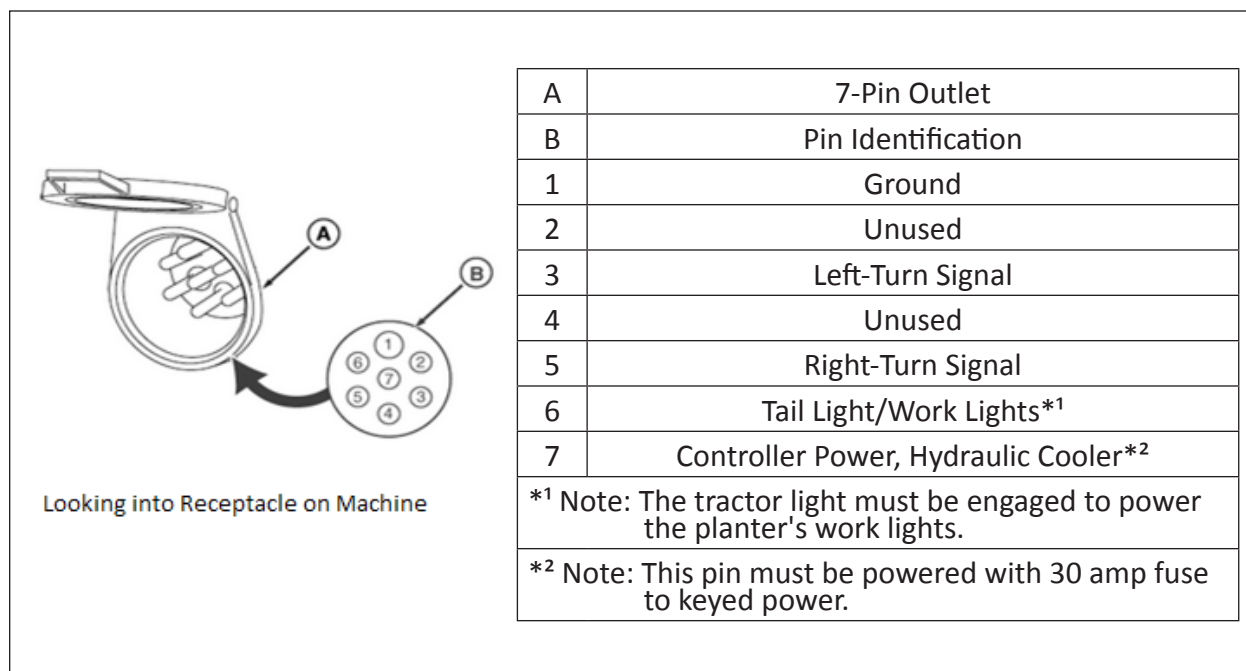

Fig. 17 7-Pin Connector Wiring Identification
- The 7-pin electrical connector (round) matches ASABE S279 Standard and SAE J560 heavy vehicle standard. See Fig. 17 below for wiring identification.